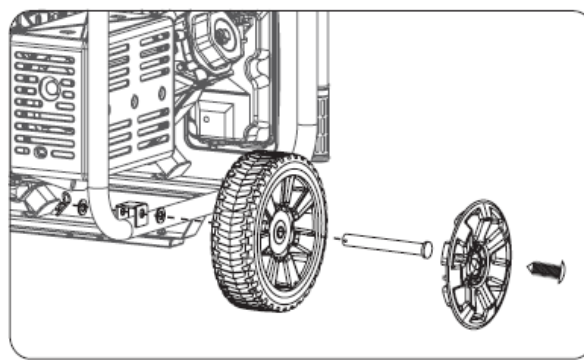

Fig.2
6.2 Attaching Wheels (See Fig.2)